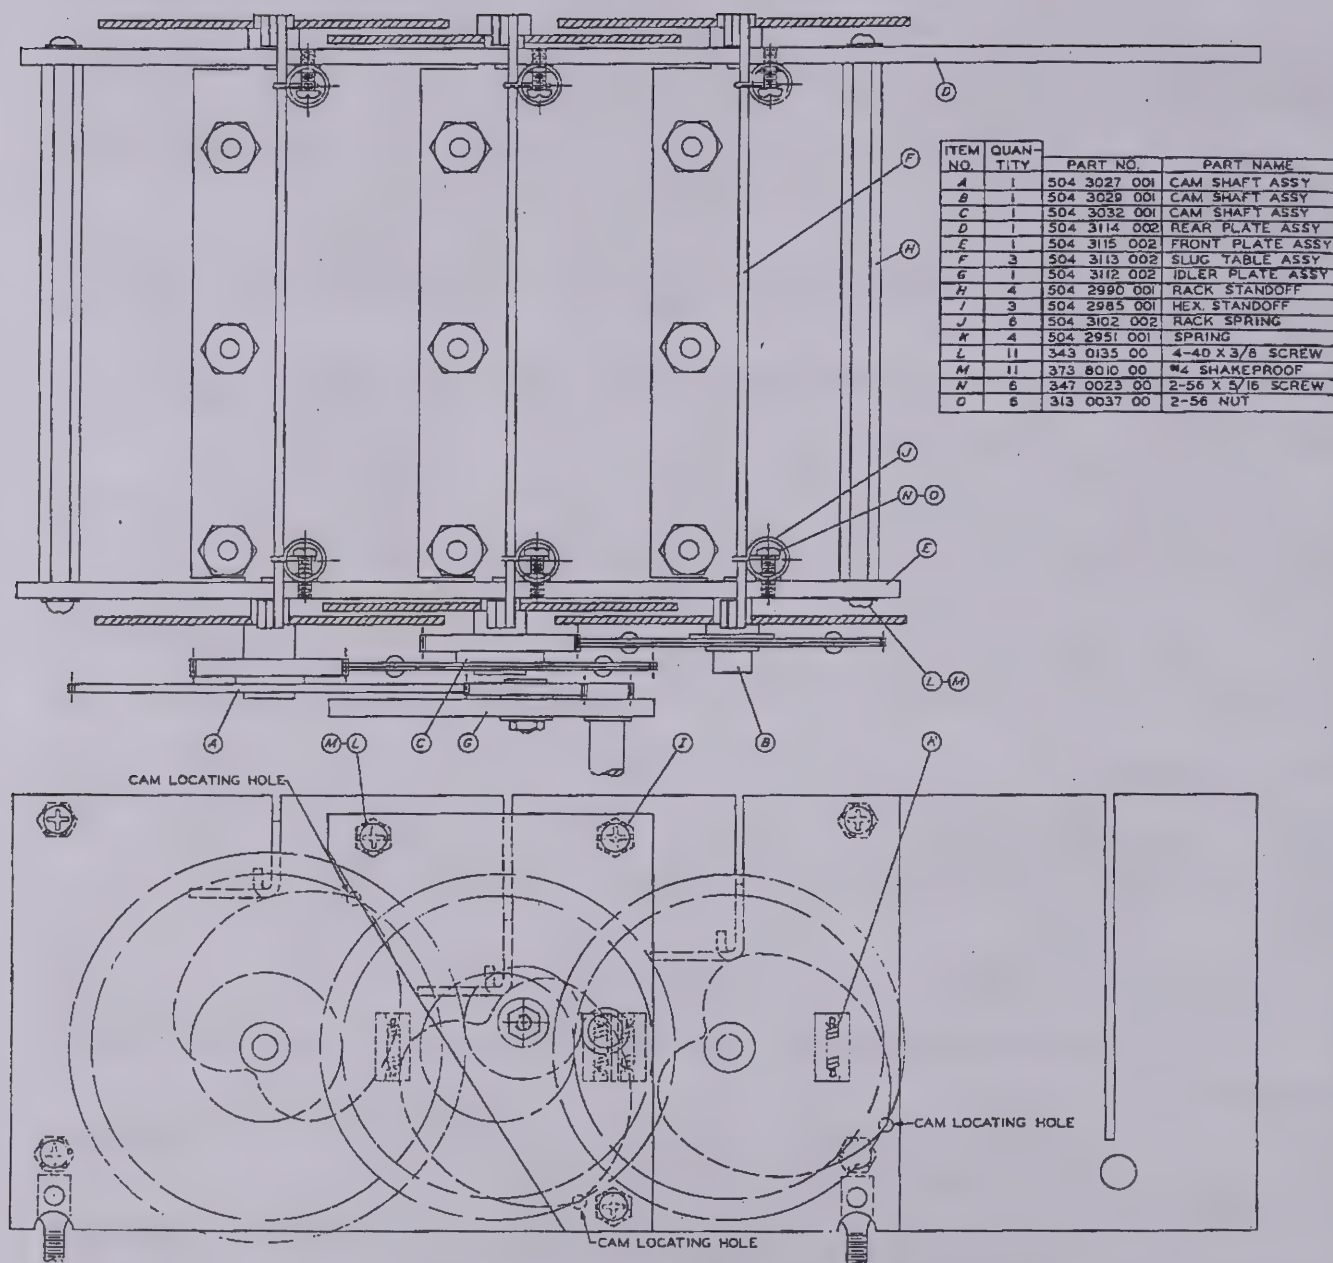

Figure 5-5. 51J-3 R-F Slug Rack Drawing
5.7.2. POSITIONS OF CAMS. - The front plate of the slug rack assembly contains three alignment holes as indicated in figure 5-5. If the cams are correctly synchronized, the tips of the front cams will be directly opposite these holes. Use a dental mirror to accurately inspect the position of the cam tips in relation to the alignment holes. If a dental mirror is not available, check positions and operation of the cams in the following manner.